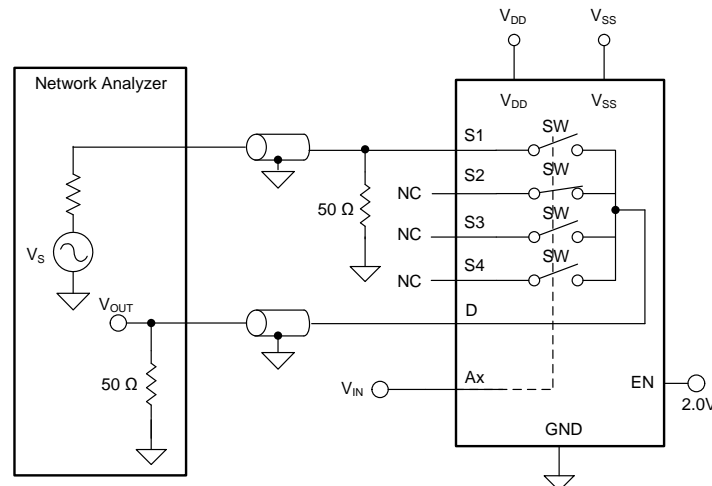

Figure 8. Off Isolation Measurement Setup
Off isolation is defined as the voltage at the drain pin (D) of the TMUX6104 when a 1-V_{RMS} signal is applied to the source pin (Sx) of an off-channel. Figure 8 shows the setup used to measure off isolation. Use Equation 2 to compute off isolation.